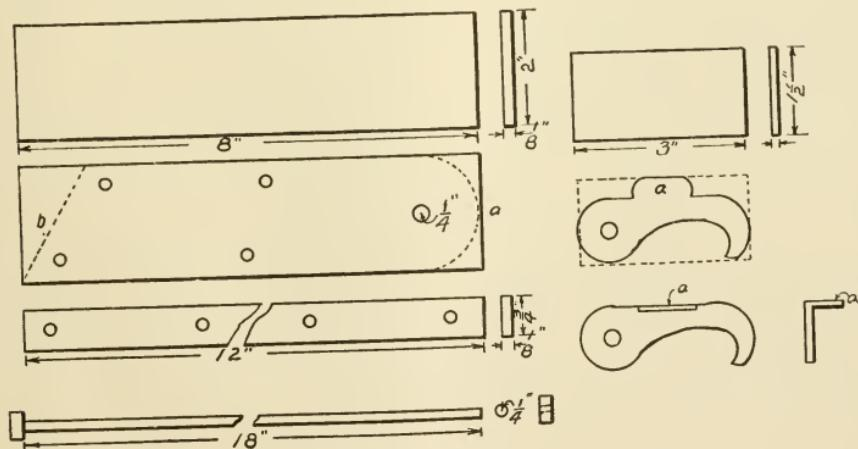

FIG. 212.—IRONS FOR COMBINATION LADDER.
1. Each of the two side pieces that hold the ladder support is cut out of thin iron along the dotted lines shown in Fig. 212, and a hole is drilled for the bolt $1\frac{1}{4}$ " from the round end *a*. The other holes are for the screws and should be countersunk. The end *b* should be cut at the same angle that the steps are placed with the stringers.